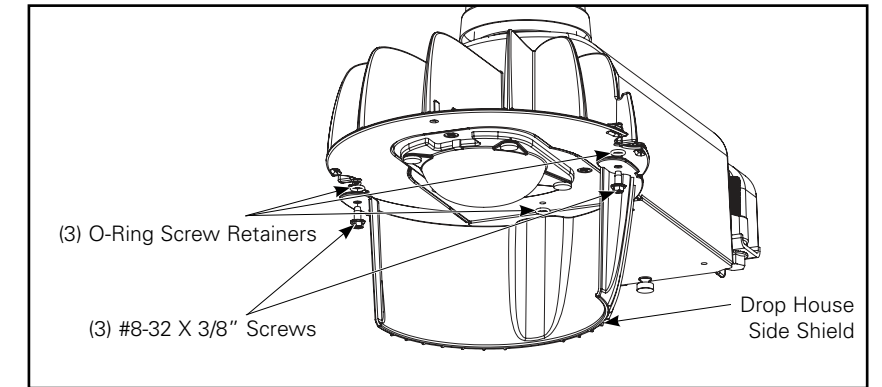

Figure 12.
1. Insert provided thread forming screws into house side shield mounting locations and place provided O-rings over screw threads to hold screws within House Side Shield. Install house side shield onto housing. (Figure 12.)